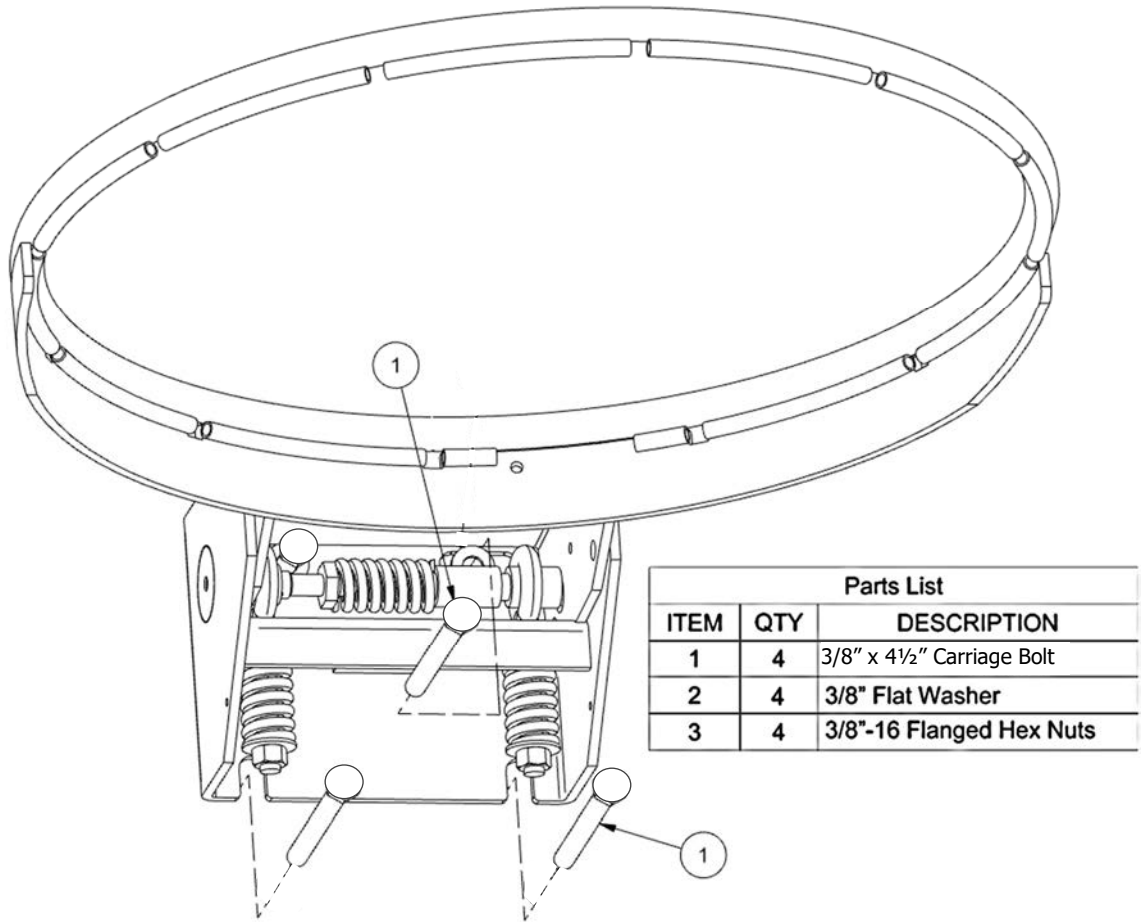

Figure 7-9: Insert hardware.
13. Fasten rim to board using the 3/8" -16 x 4½" carriage bolts (4X), 3/8" flat washers (4X) and 3/8" flanged nuts (4X) as shown in Figure 7-9.